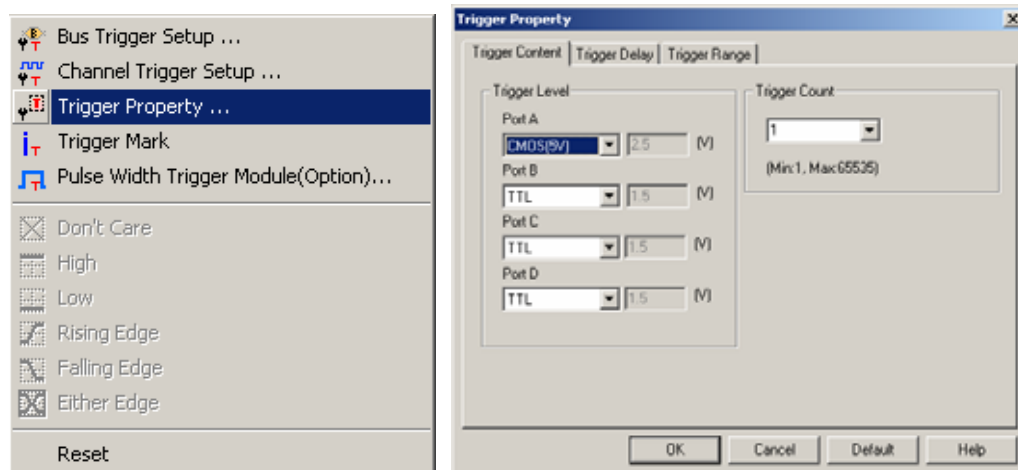

Fig 4-4 - Trigger Property
**Step1.** Click  icon or click **Trigger Property** from the Trigger on the Menu Bar. The dialog box will appear as shown in Fig 4-4.